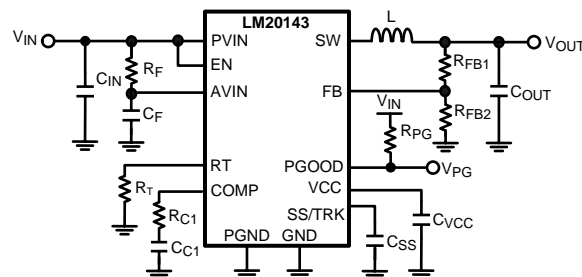

Figure 32. Typical Application Circuit
The LM20143 switching regulator features all of the functions necessary to implement an efficient low voltage buck regulator using a minimum number of external components. This easy to use regulator features two integrated switches and is capable of supplying up to 3 A of continuous output current. The regulator utilizes peak current mode control with nonlinear slope compensation to optimize stability and transient response over the entire output voltage range. Peak current mode control also provides inherent line feed-forward, cycle-by-cycle current limiting and easy loop compensation. The switching frequency can be varied from 500 kHz to 1.5 MHz with an external resistor to ground. The device can operate at high switching frequency allowing use of a small inductor while still achieving efficiencies as high as 96%. The precision internal voltage reference allows the output to be set as low as 0.8 V. Fault protection features include: current limiting, thermal shutdown, over voltage protection, and shutdown capability. The device is available in the HTSSOP 16-pin package featuring an exposed pad to aid thermal dissipation. The LM20143 can be used in numerous applications to efficiently step-down from a 5 V or 3.3 V bus. The typical application circuit for the LM20143 is shown in Figure 32 in the design guide.
This section walks the designer through the steps necessary to select the external components to build a fully functional power supply. As with any DC-DC converter numerous trade-offs are possible to optimize the design for efficiency, size, or performance. These will be taken into account and highlighted throughout this section. The circuit shown in Figure 32 may be used as a reference to facilitate component selection. Unless otherwise indicated all formulas assume units of amps (A) for current, farads (F) for capacitance, henries (H) for inductance and volts (V) for voltages.
To prevent high frequency noise spikes from disturbing the sensitive analog circuitry connected to the AVIN and AGND pins, a high frequency RC filter is required between PVIN and AVIN. These components are shown in Figure 32 as  $C_F$  and  $R_F$ . The required value for  $R_F$  is 1  $\Omega$ .  $C_F$  must be used. Recommended value of  $C_F$  is 1.0  $\mu$ F. The filter capacitor,  $C_F$  should be placed as close to the IC as possible with a direct connection from AVIN to AGND. A good quality X5R or X7R ceramic capacitor should be used for  $C_F$ .